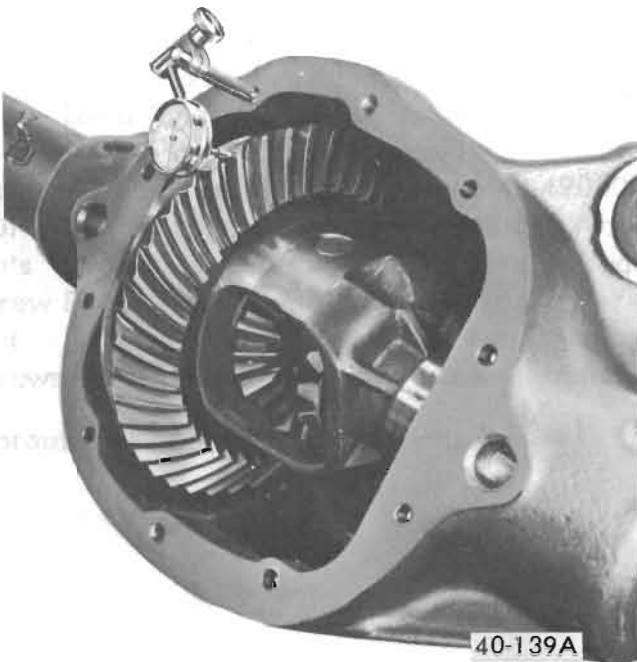

Figure 40-142 - Checking Ring Gear to Pinion Backlash
1. Rotate differential case several times to seat bearings, then mount dial indicator as shown in Figure 40-142. Use a small button on indicator stem so that contact can be made near heel end of tooth. Set dial indicator so that stem is as nearly as possible in line with gear rotation and perpendicular to tooth angle for accurate backlash reading.